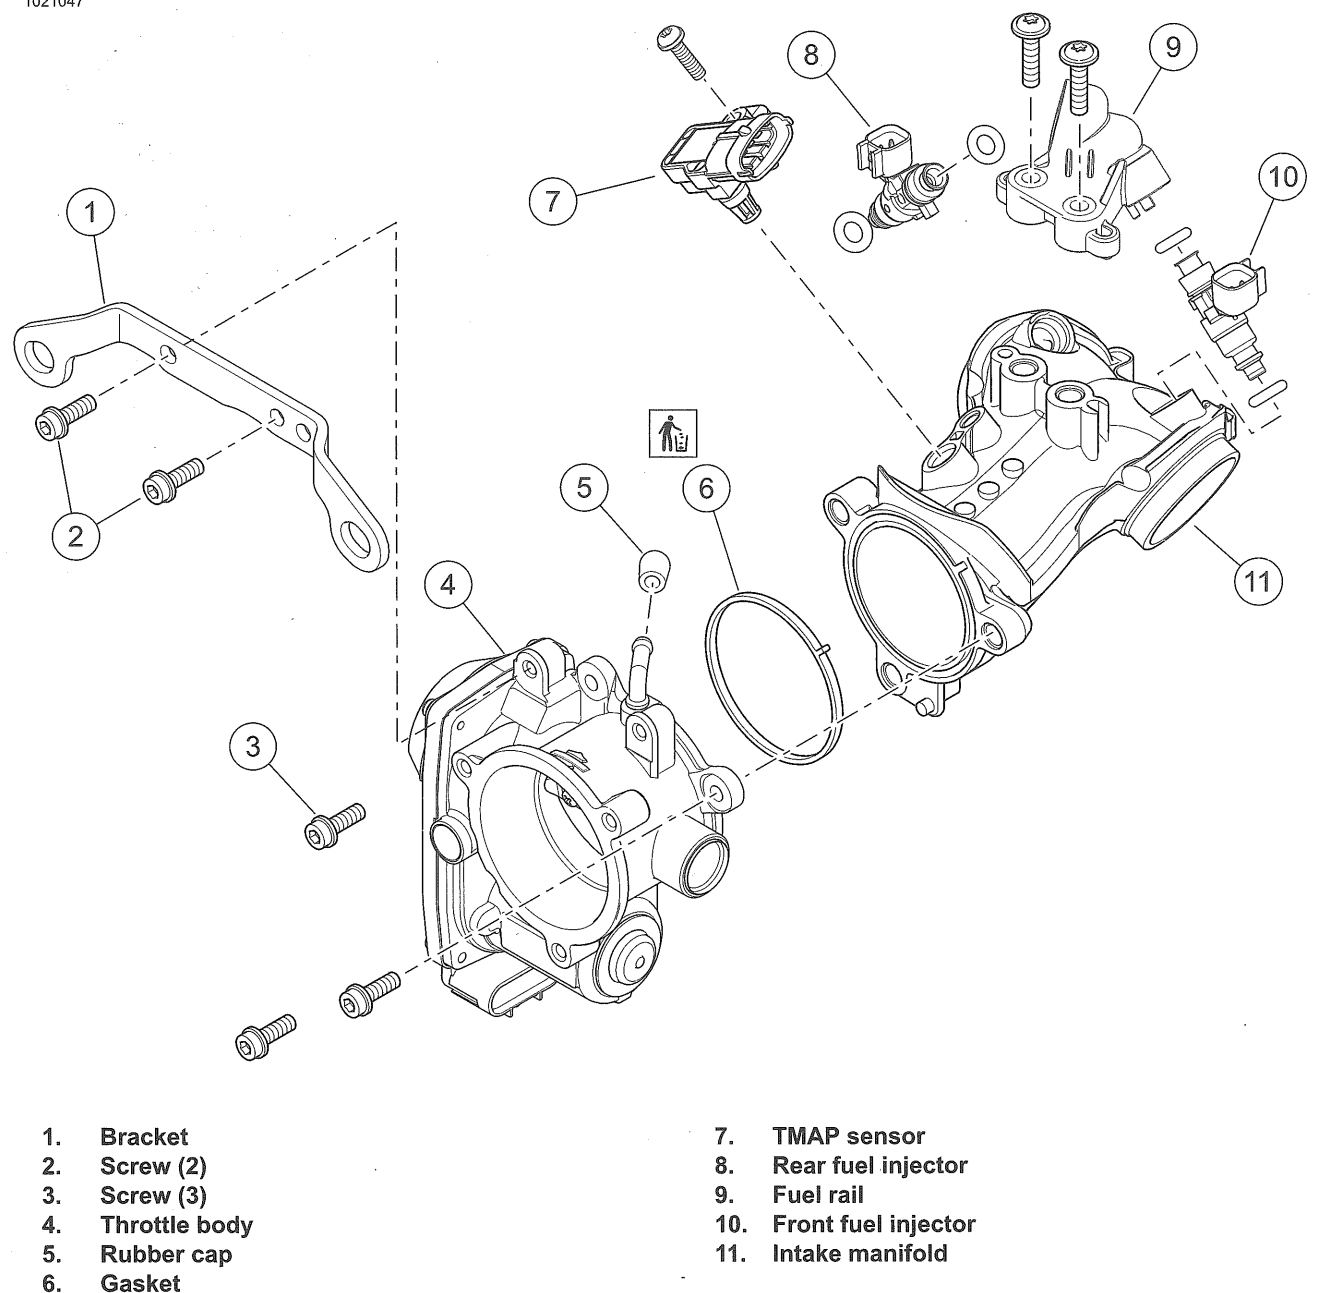

Figure 6-35. Induction Module Assembly
2. See Figure 6-35 Remove bracket (1).
- a. Remove screws (2).
3. Remove throttle body (4).
- a. Remove screws (3).
- d. Discard gasket (6).
1. See Figure 6-35. Remove TMAP sensor (7). See TEMPERATURE MANIFOLD ABSOLUTE PRESSURE (TMAP) SENSOR (Page 6-22).
2. Remove fuel rail (9) and fuel injectors (8, 10). See FUEL INJECTORS (Page 6-25).
1. See Figure 6-35. Install TMAP sensor (7). See TEMPERATURE MANIFOLD ABSOLUTE PRESSURE (TMAP) SENSOR (Page 6-22).
2. Install fuel injectors (8, 10) and fuel rail (9). See FUEL INJECTORS (Page 6-25).
1. See Figure 6-35. Install throttle body (4).
- a. Install **new** gasket (6).
- c. Install screws (3).